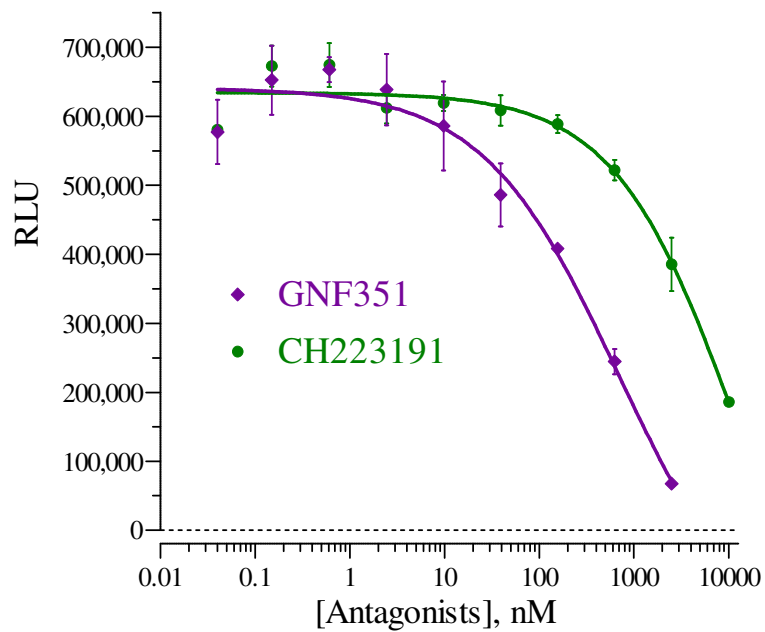

Figure 3. Antagonist dose-response analyses of Human AhR.
- *Optional*: reference antagonist (see Figure 3).